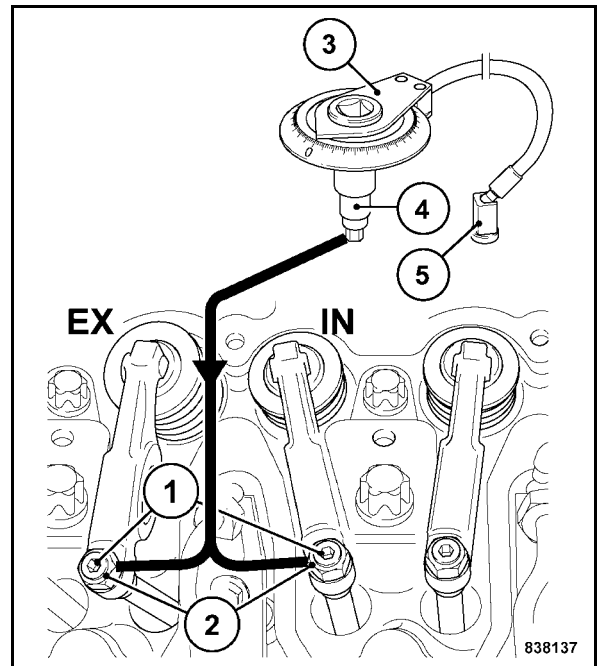

Fig. 173
- Loosen the counter nut (1) (Fig. 173).
- Attach the rotation angle disc (3) and the spanner socket (4) to the valve clearance adjustment screw (2).
- Fix the magnet (5) of the rotation angle disc.
- Hold the rotation angle disc tight, so that it does not turn, and tighten counter nut (1).